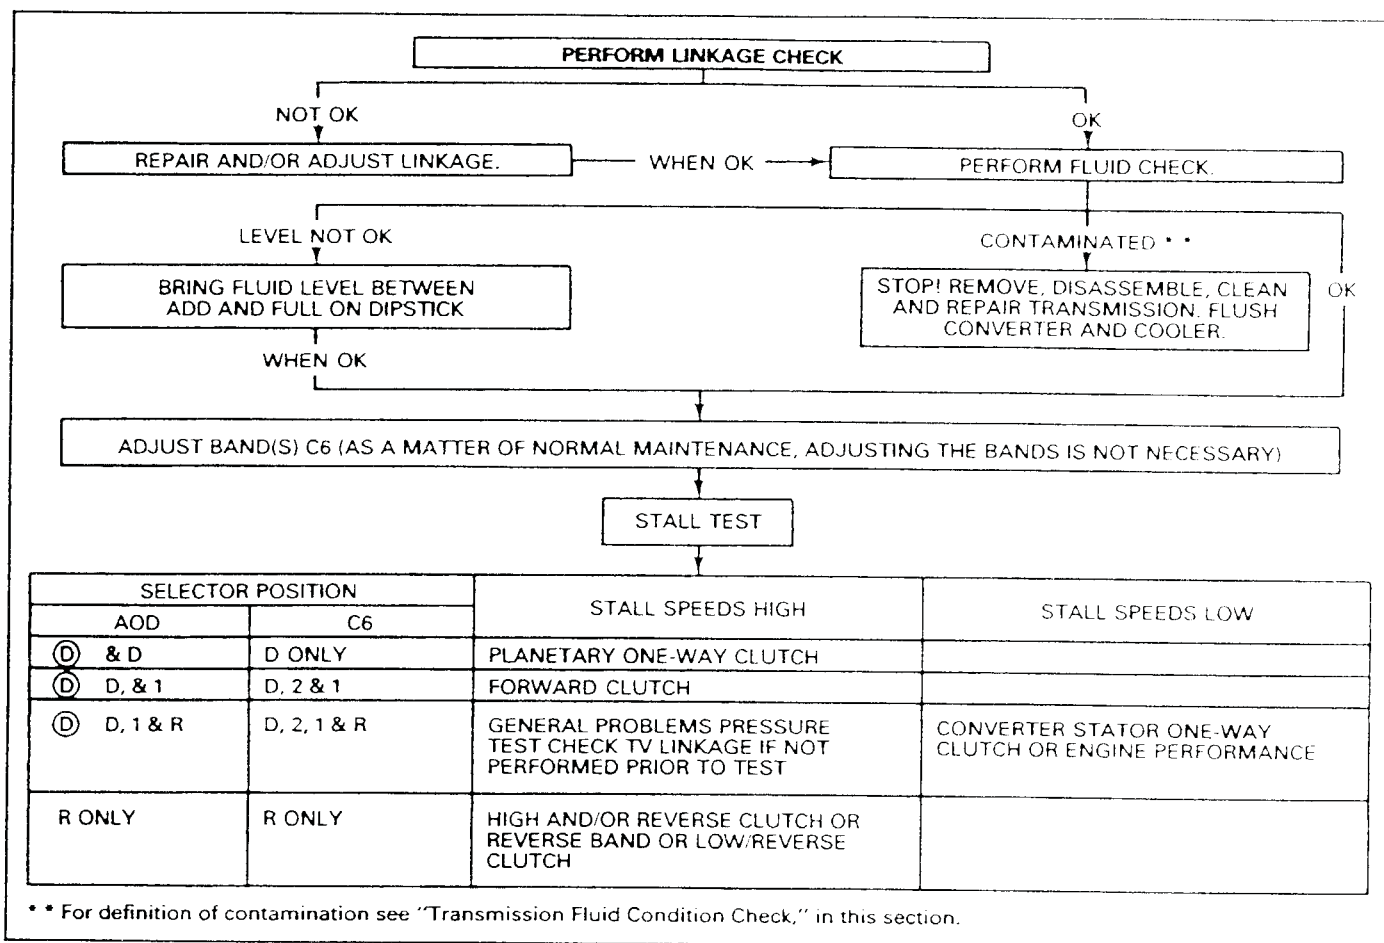

FIG. 13 Stall Diagnosis Test
Refer to Fig. 13.
6. Refer to Fig. 13 for corrective actions.